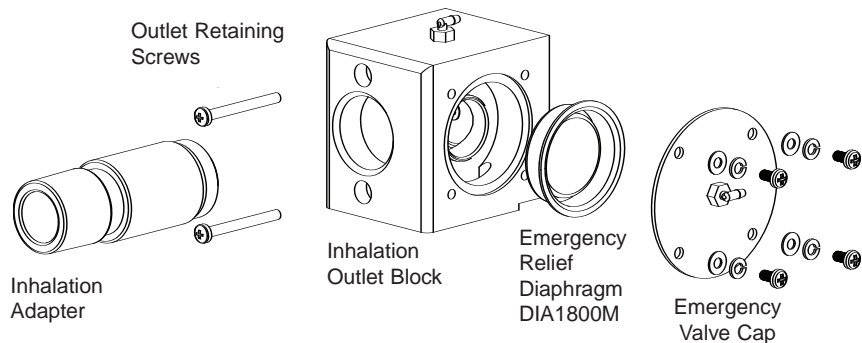

Figure 2-5 Emergency Relief Diaphragm Replacement
- 2 Remove the Inhalation Outlet Assembly by removing the two retaining screws, see Figure 2-5 above.
- 2 Remove the Inhalation Adapter from the Inhalation Outlet Assembly, see Figure 2-5.